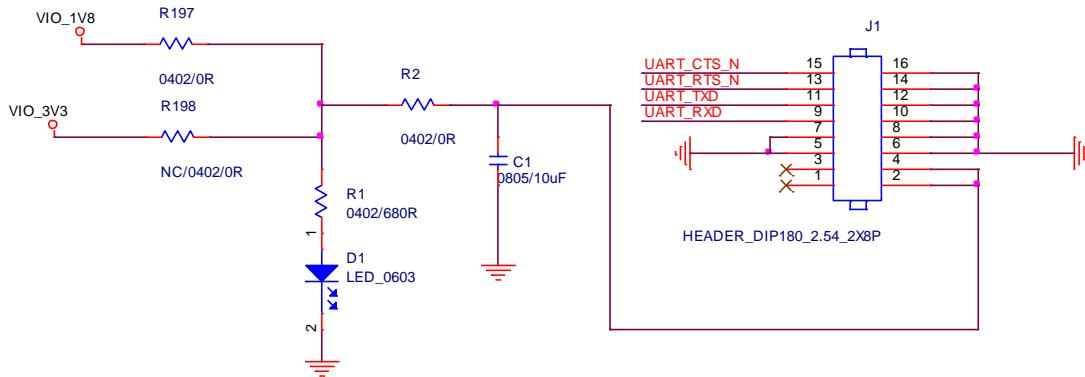

Figure4. Bluetooth verification connection interface to Host UART
- ❖ Refer to Figure4 UART pin definition connects the J1 interface of AP6281P evaluation